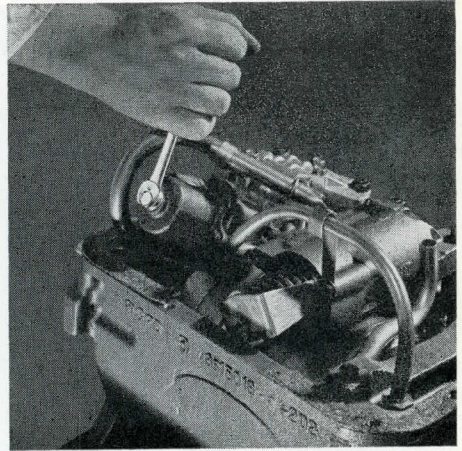

Figure 2
2. Remove pipe plug from front servo body. Fig. 2.